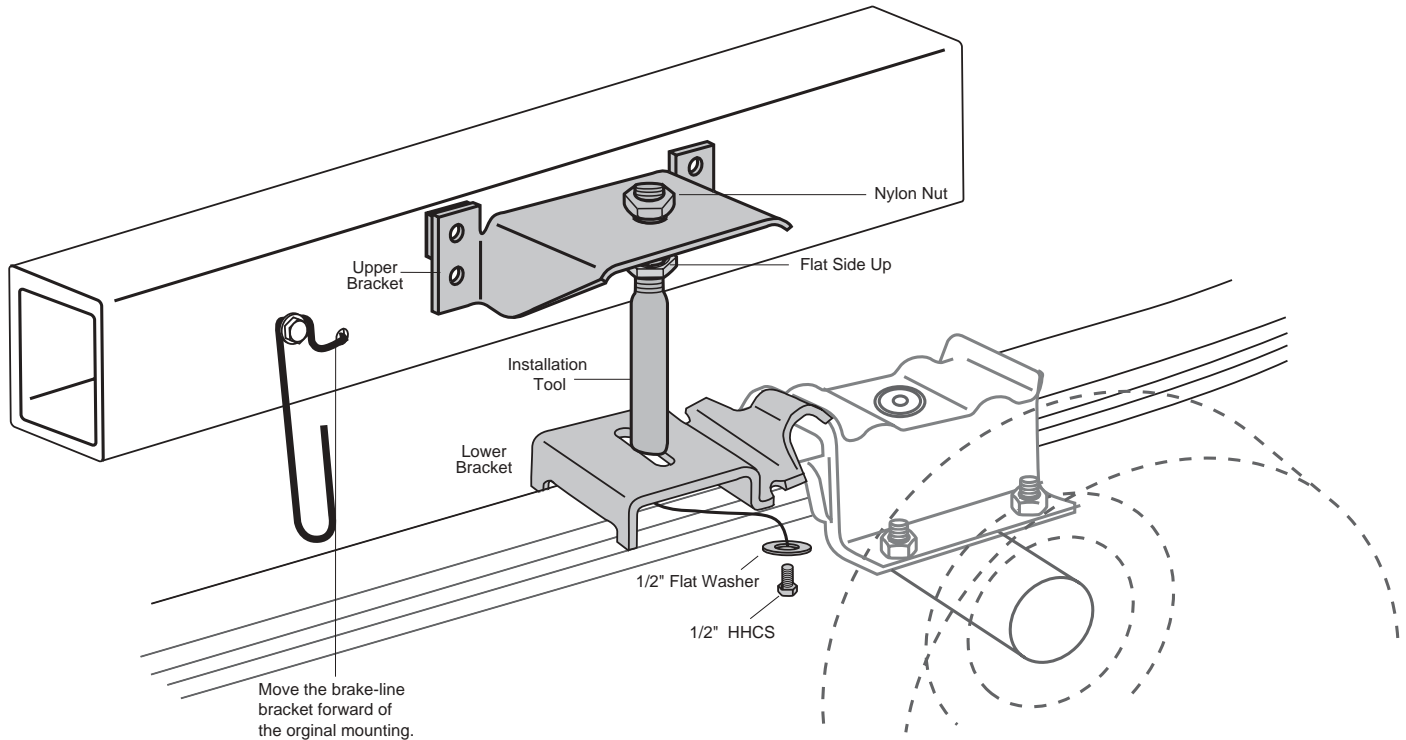

Figure 1
1. Place the upper bracket (B) onto the threaded end of the alignment tool (D). Thread a nylon nut (E) onto the tool to hold the bracket in place. Leave loose at this time (Figure 1).
2. Using a 1/2" bolt (F) and flat washer (G), attach the lower bracket (C) to the bottom of the installation tool.
Refer to figure 1 when relocating the brake-line bracket.